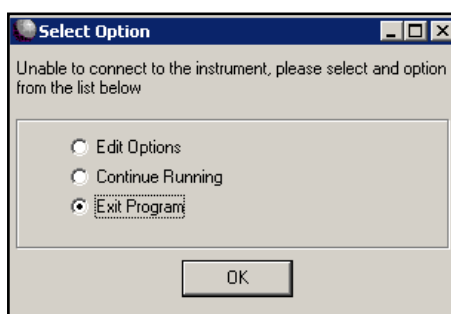

Figure 46. Download activity timeout dialogue box
Step 3: If however the sampler board is still not detected, it may be due to an incorrect COM port designation, and eventually download activity within the software will time out. A dialogue box will then appear as shown in figure 46.